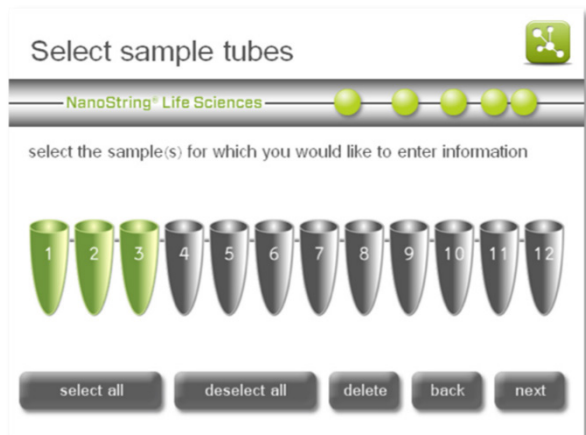

Figure 76: The 'Select sample tubes' screen.
9. Select the **samples** field. The 'Select sample tubes' screen will appear (**Figure 76**).